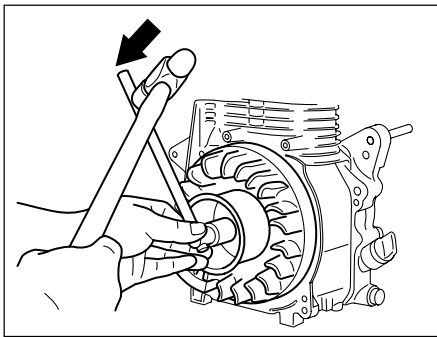
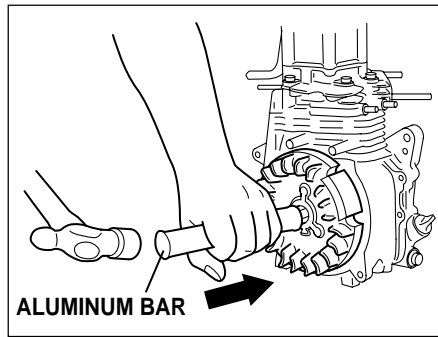
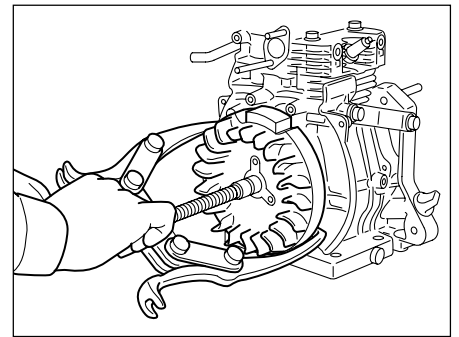

Fig. 5-9
Fig. 5-10
Fig. 5-11
| 11 | Flywheel | (1) Remove the starter pulley from flywheel. Place socket wrench on flywheel fastening nut and strike tip of the lever with hammer. (See Fig. 5-9.) (2) EH09D Tap on flywheel end of crankshaft using aluminum bar to remove flywheel. (See Fig. 5-10.) EH12-2D Remove flywheel using the flywheel puller. (See Fig. 5-11.) (3) Remove the key from crankshaft. (See Fig. 5-12.) | M12 nut, spring washer M14 nut, spring washer |